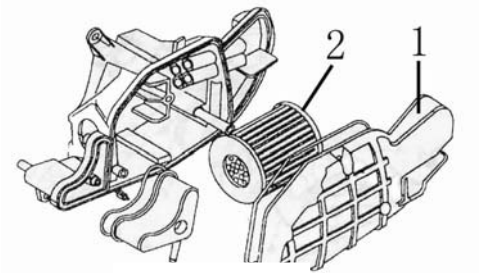

Figure 7
- b. Remove air cleaner element 2 (See Fig. 7)